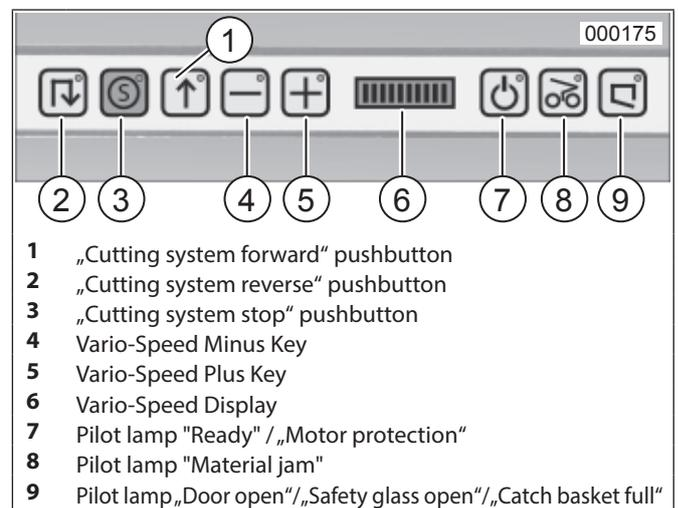

Fig. 2 Keyboard
- The pilot lamp marked „ready for operation“ (Fig.2/7), as well as the red stop-button „S“ (Fig.2/3) will light to indicate that the machine is ready for operation.
- After destroying the data carrier, press the stop-button „S“ (Fig. 2/3).
3. Briefly press the forward-button Fig.2/2.
The shredding process can be manually stopped at any time by briefly pressing the stop-button „S“ (Fig. 2/3).
- The cutting system becomes jammed. The pilot lamp (Fig. 2/8) lights up.
- Press the vario-speed plus key (Fig. 2/5), in order to increase working speed.
- Press the vario-speed minus key (Fig. 2/4), in order to decrease working speed, and to allow for increased cutting capacity.
Current cutting speed is indicated at the vario-speed display (Fig. 2/6)
If the catch basket is full, the motor switches off. The pilot lamp „Catch basket full“ (Fig. 2/9) and the stop-button „S“ (Fig. 2/3) light up.
- The  pilot lamp (Fig. 2/8) lights up.